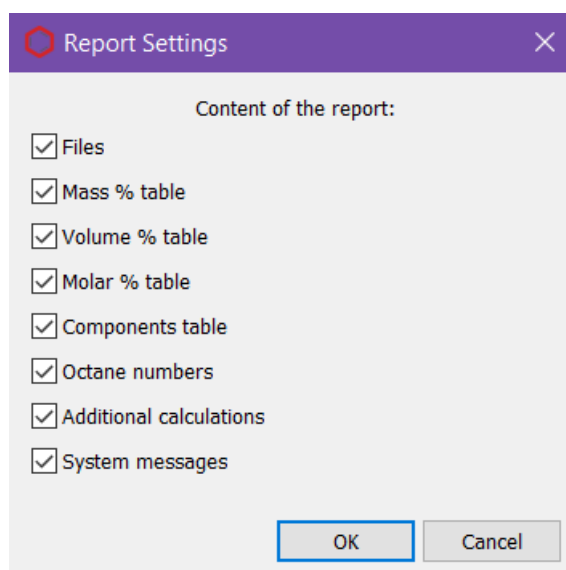

Fig. 6. Report Settings
1. In the main program window, click **Report Settings**. The *Report Settings* window opens (Fig. 6).